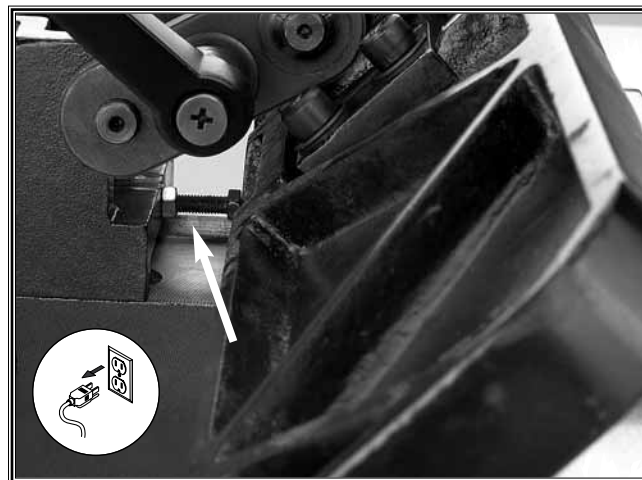

Figure 23. 45° inward angle stop bolt.
3. Loosen the jam nut on the 45° inward stop bolt (Figure 23).